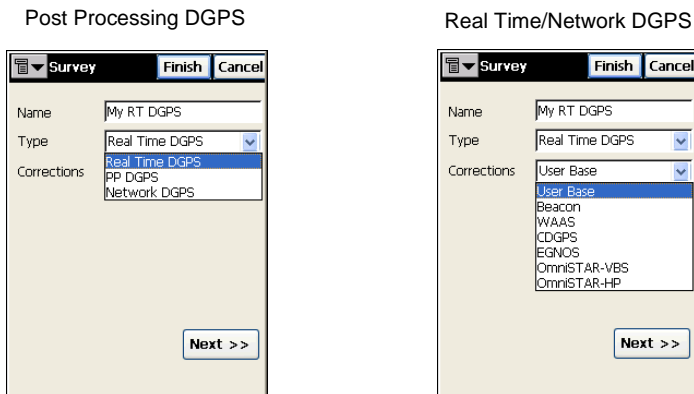

Figure 2-6. Select Survey Configuration Type
4. On the *Survey* screen, enter a name for the configuration and select the type. For RT DGPS and Network DGPS surveys, select the corrections type. Press **Next** (Figure 2-6).